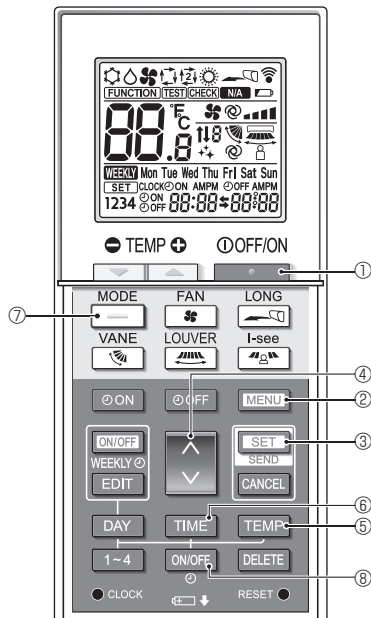

Fig. 6-5
1. Press the **MODE** button ① to stop the air conditioner.
2. Press the **SET** button ③ in 5 seconds. Model setting screen will be displayed.
3. Press the **MODE** button ①. Operation mode Ⓐ blinks. (Fig. 6-5)
4. Press the **UP** button ④ to change setting No.
5. Check that setting No. "6" is displayed and only **ON** **OFF** **AMPM** blink at operation mode Ⓐ, then press the **SET** button ③ in 5 seconds.